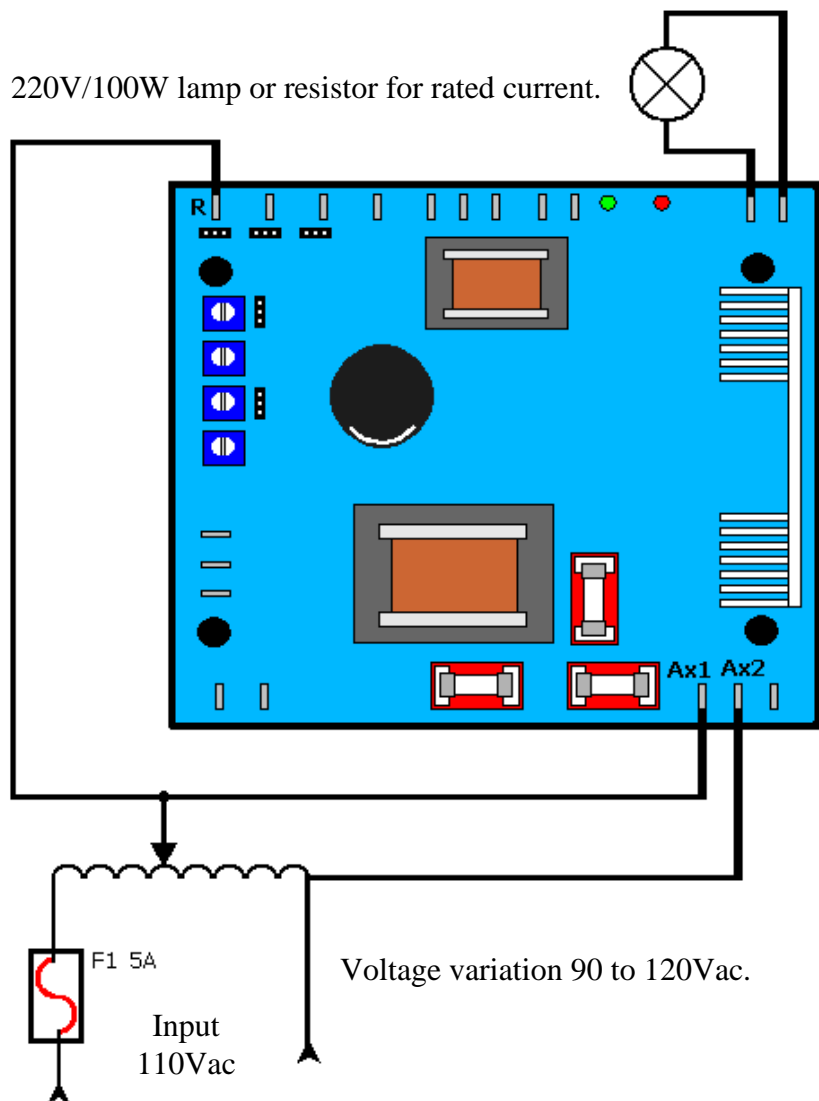

Figure 24.1 - Regulator connection without generator.
1. The lamp voltage must be the same voltage applied on the input. The figure 24.1 shows an example using a 220V/100W lamp.